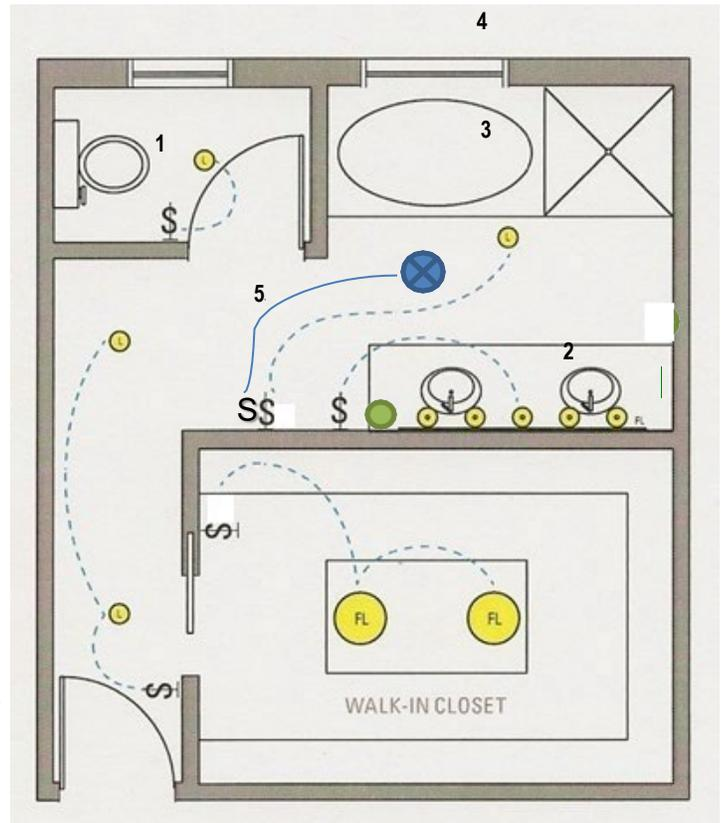

Figure 1
If the scope of work includes the reconfiguration of the bathroom layout, please bring **three (3)** sets of plans (minimum 11-in x 17-in drawings) depicting the existing and proposed bathroom floor plan and a written detailed description of the scope of work. It is important the plans clearly show all work proposed to avoid delays in permit issuance. Once a permit is issued, the scope of work is limited as defined and illustrated in the documents filed and the items to be replaced in the checklist below. See sample (figure 1) on next page. The applicant is responsible for compliance with all code regulations. If the scope of work is altered after permit issuance, the applicant shall request the permit be updated.